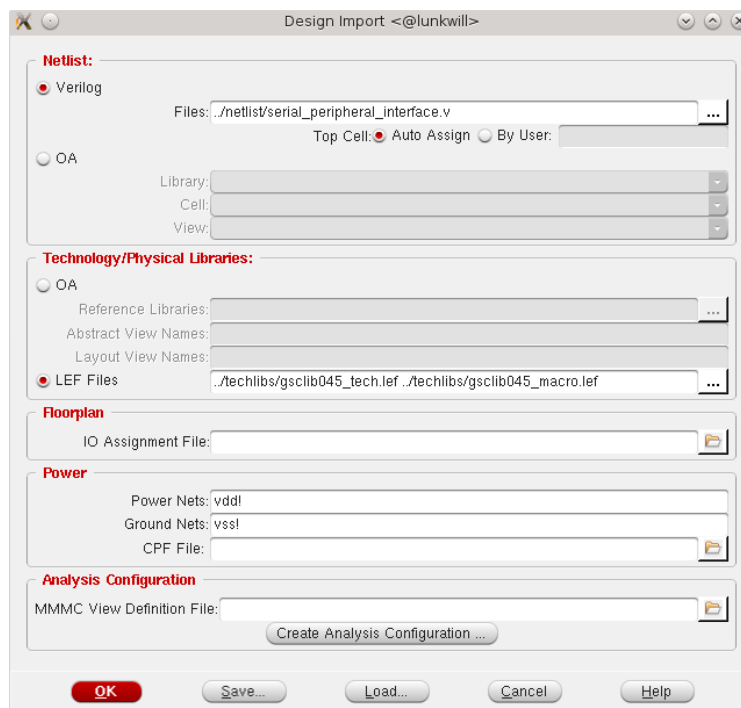

Figure 4.1: Design Import window.
5. Your window should now look like in Figure 4.1.